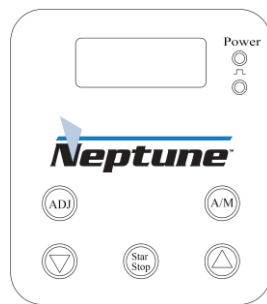

图 9 Fig.9
- 脉冲计量泵的面板按键和指示灯的分布。（如图 9）；Distribution of button and indicator light of pulse metering pump (as shown in Fig.9)
- 4~20mA控制计量泵的面板按键和指示灯的分布。（如图 9）；Distribution of button and indicator light of panel of 4~20mA control metering pump. （as shown in Fig.9）